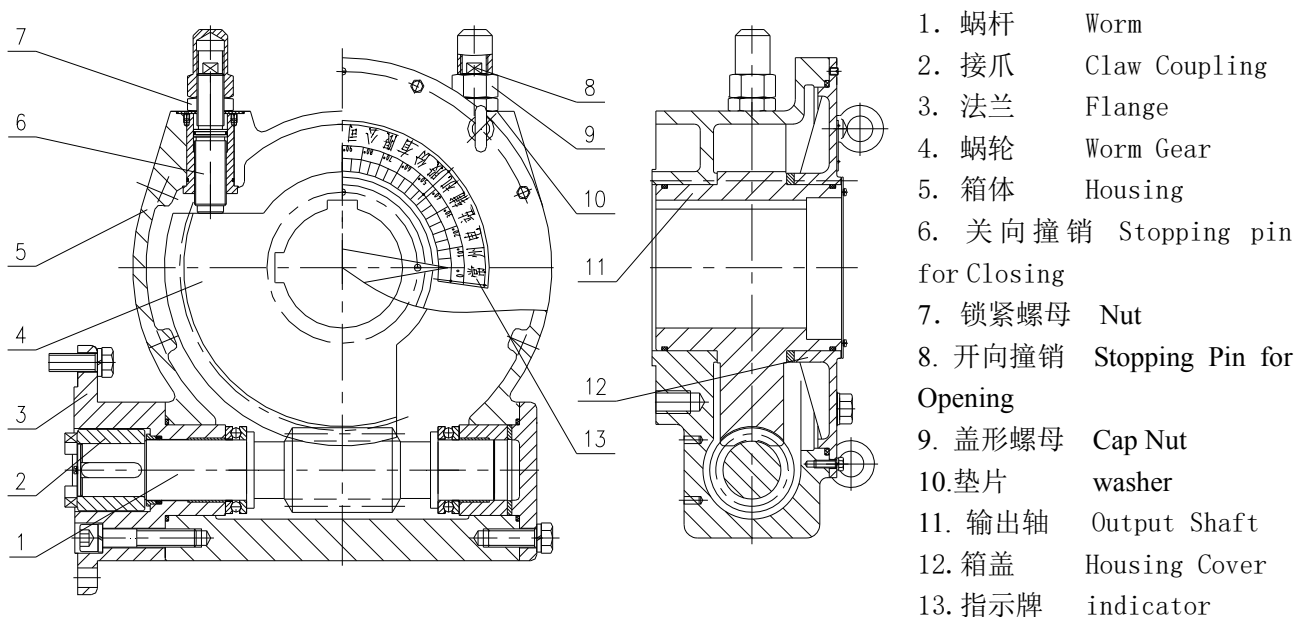

图 1. DJ 型叠加减速器结构简图 Fig.1 Scheme of Type DJ Reducer
The construction of type DJ reducer refer to Fig. 1, (The actuator of first stage see corresponding instruction manual). To adjust the two pins of 6 and 8 can regulate accurately start
1. 阀门的全开、全关位置若由行程机构或力矩机构来控制, 则在调整行程或力矩之前需旋松机械限位(即图 1 中的撞销)。